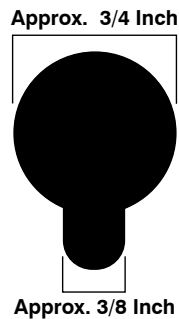

Figure 3: Mounting Button Hole Specs
3. Refer to Figure 3 below to make certain that the equipment rack includes appropriate mounting button holes and then attach the WTI Vertical Mount Power Device to the rack by inserting the Mounting Buttons into the Mounting Button holes. When the vertical mount power device is in place, slide the unit downward to securely seat each Mounting Button in its corresponding hole.